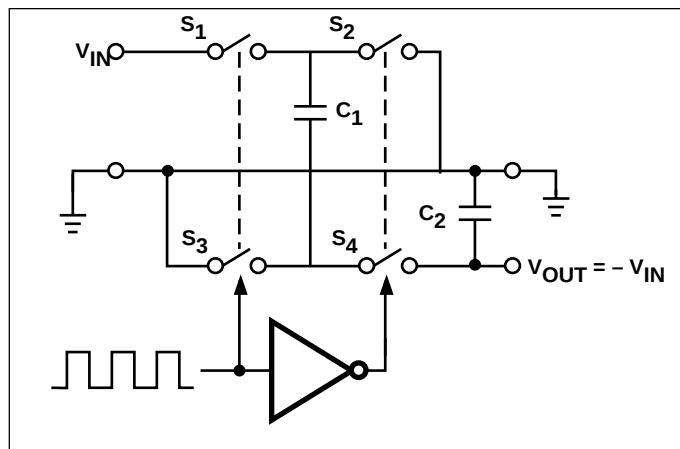
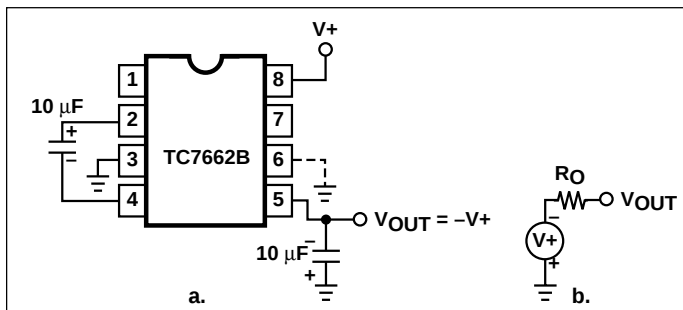
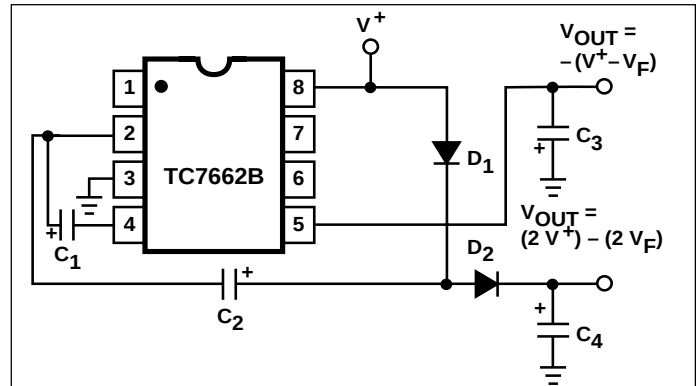

Figure 2. Idealized Negative Voltage Capacitor
Figure 3. Simple Negative Converter and its Output Equivalent
Figure 10. Combined Negative Converter and Positive Doubler
ELECTRICAL CHARACTERISTICS: $V^+ = 5V$, $T_A = +25^\circ C$, OSC = Free running, Test Circuit Figure 2, Unless Otherwise Specified.
The TC7662B contains all the necessary circuitry to complete a negative voltage converter, with the exception of two external capacitors which may be inexpensive 1 μ F polarized electrolytic types. The mode of operation of the device may be best understood by considering Figure 2, which shows an idealized negative voltage converter. Capacitor C_1 is charged to a voltage V^+ for the half cycle when switches S_1 and S_3 are closed. (Note: Switches S_2 and S_4 are open during this half cycle.) During the second half cycle of operation, switches S_2 and S_4 are closed, with S_1 and S_3 open, thereby shifting capacitor C_1 negatively by V^+ volts. Charge is then transferred from C_1 to C_2 such that the voltage on C_2 is exactly V^+ , assuming ideal switches and no load on C_2 . The TC7662B approaches this ideal situation more closely than existing non-mechanical circuits.
In the TC7662B, the four switches of Figure 2 are MOS power switches; S_1 is a P-channel device and S_2 , S_3 and S_4 are N-channel devices. The main difficulty with this approach is that in integrating the switches, the substrates of S_3 and S_4 must always remain reverse biased with respect to their sources, but not so much as to degrade their "ON" resistances. In addition, at circuit start up, and under output short circuit conditions ($V_{OUT} = V^+$), the output voltage must be sensed and the substrate bias adjusted accordingly. Failure to accomplish this would result in high power losses and probable device latchup.
where V_1 and V_2 are the voltages on C_1 during the pump and transfer cycles. If the impedances of C_1 and C_2 are relatively high at the pump frequency (refer to Figure 2) compared to the value of R_L , there will be a substantial difference in voltages V_1 and V_2 . Therefore, it is desirable not only to make C_2 as large as possible to eliminate output voltage ripple, but also to employ a correspondingly large value for C_1 in order to achieve maximum efficiency of operation.
The majority of applications will undoubtedly utilize the TC7662B for generation of negative supply voltages. Figure 3 shows typical connections to provide a negative supply where a positive supply of +1.5V to +15V is available. Keep in mind that pin 6 (LV) is tied to the supply negative (GND) for supply voltages below 3.5 volts.
The output characteristics of the circuit in Figure 3 can be approximated by an ideal voltage source in series with a resistance as shown in Figure 3b. The voltage source has a value of $-(V+)$. The output impedance (R_O) is a function of the ON resistance of the internal MOS switches (shown in Figure 2), the switching frequency, the value of C_1 and C_2 , and the ESR (equivalent series resistance) of C_1 and C_2 . A good first order approximation for R_O is:
Figure 10 combines the functions shown in Figures 3 and 9 to provide negative voltage conversion and positive voltage doubling simultaneously. This approach would be, for example, suitable for generating +9V and -5V from an existing +5V supply. In this instance, capacitors C_1 and C_3 perform the pump and reservoir functions, respectively, for the generation of the negative voltage, while capacitors C_2 and C_4 are pump and reservoir, respectively, for the doubled positive voltage. There is a penalty in this configuration which combines both functions, however, in that the source impedances of the generated supplies will be somewhat higher due to the finite impedance of the common charge pump driver at pin 2 of the device.